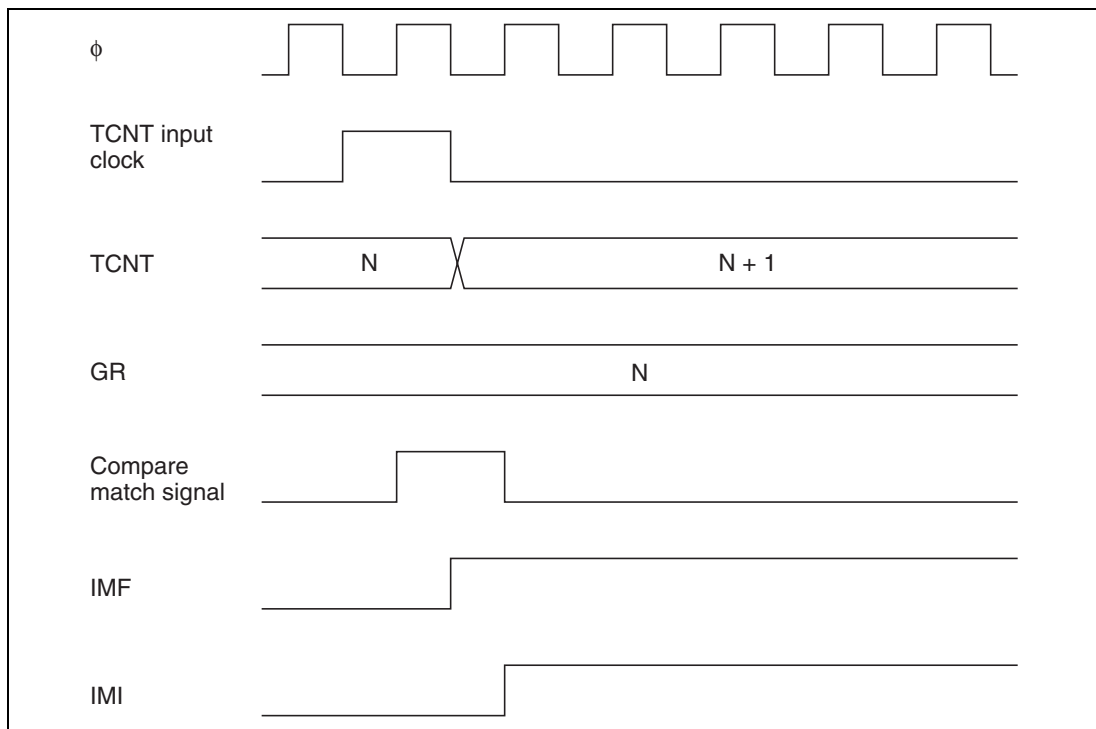

Figure 8.57 Timing of Setting of IMFA and IMFB by Compare Match
Timing of Setting of IMFA and IMFB at Compare Match: IMFA and IMFB are set to 1 by a compare match signal generated when TCNT matches a general register (GR). The compare match signal is generated in the last state in which the values match (when TCNT is updated from the matching count to the next count). Therefore, when TCNT matches a general register, the compare match signal is not generated until the next timer clock input. Figure 8.57 shows the timing of the setting of IMFA and IMFB.